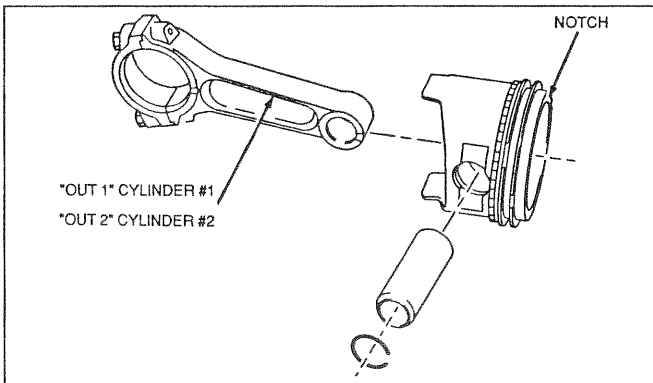

Figure 27. Positioning the Connecting Rod
- Align the connecting rod with the notch on the piston as shown in Figure 27.
- Make sure the connecting rod is properly aligned with the notch on the piston as shown in Figure 27.